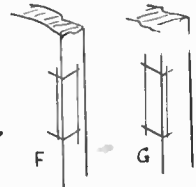

Fig. 3
door face, as at (F) Fig. 3 and down the edge of the door frame, as at (G).
Next turn them to shape in your lathe, finishing off with a scraping tool the shape of your stanchion, to ensure uniform size and shape. This tool can be easily filed to shape from a piece of thin sheet metal. For small jobs they can be filed from a single edge razor blade (Fig. 3).